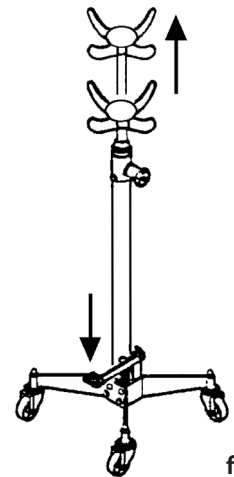

fig.3
- Hold the handles to steady the jack, operate the foot pedal and the saddle will rise (see **fig. 3**).